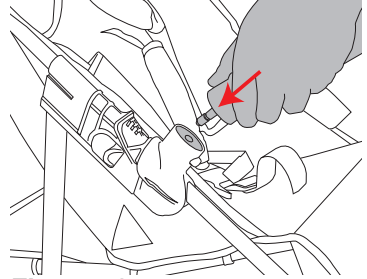

Figure 18
- Locate the bumper bar and orient it with the male fitting pointed towards the seat unit and the shiny round rivet head facing upward. While holding the male fittings straight, insert the male fittings on the bumper bar into the female fittings located on both sides of the seat. You will hear both sides of the bumper bar “click” in. See Figure 18.